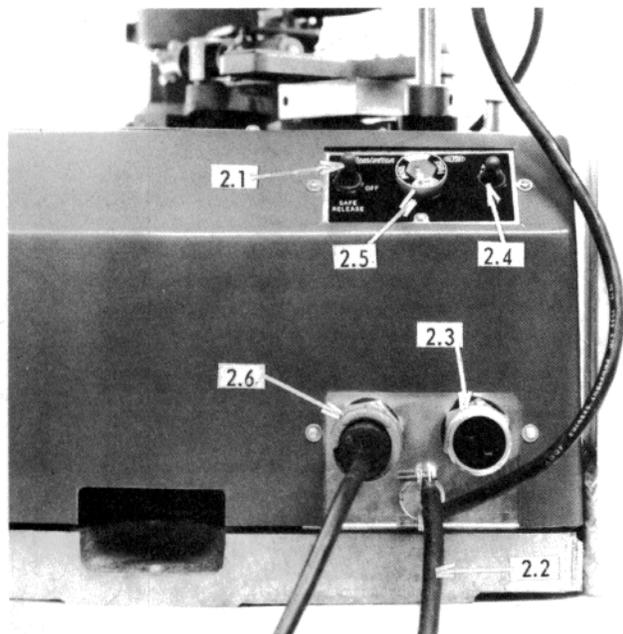

Figure 1 — Safety Switches and Operating Controls
2. The safety switches and operating controls are on the rear of the trap (see Figure 1) and include:
7. **WHENEVER WORKING AROUND OR NEAR THE TRAP, DISARM THE REMOTE SWITCH BY UNPLUGGING THE CORD FROM THE TRAP.** (see Figure 1, Page 1).